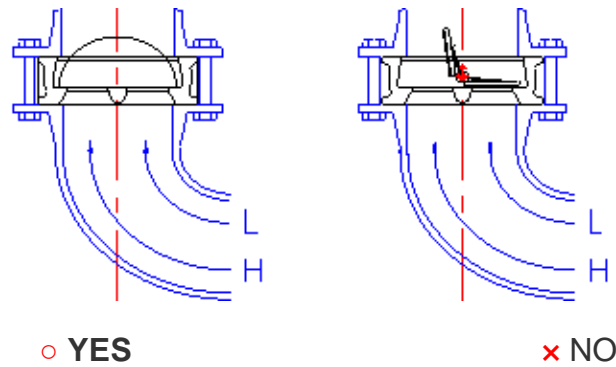

Fig.3.
- d. When installing wafer Check near an elbow, leave a space as large as possible between an elbow and Wafer Check Valve and be sure that the plate is stressed evenly. (see Fig. 3)